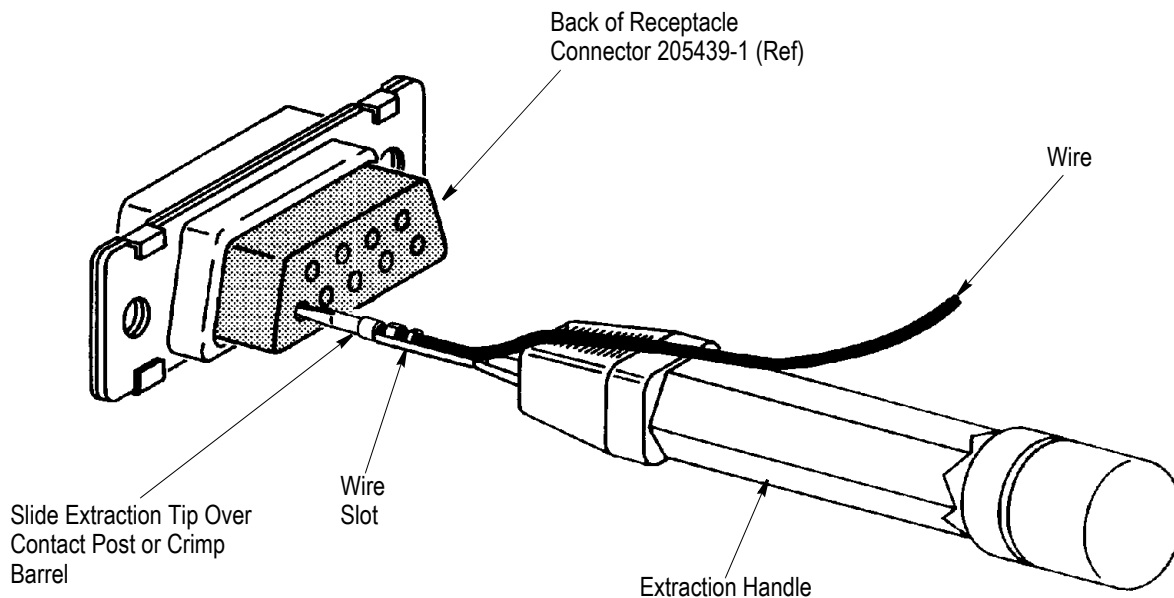

Figure 4
**4.2. Extracting A Wire Crimped Contact (Figure 4)**